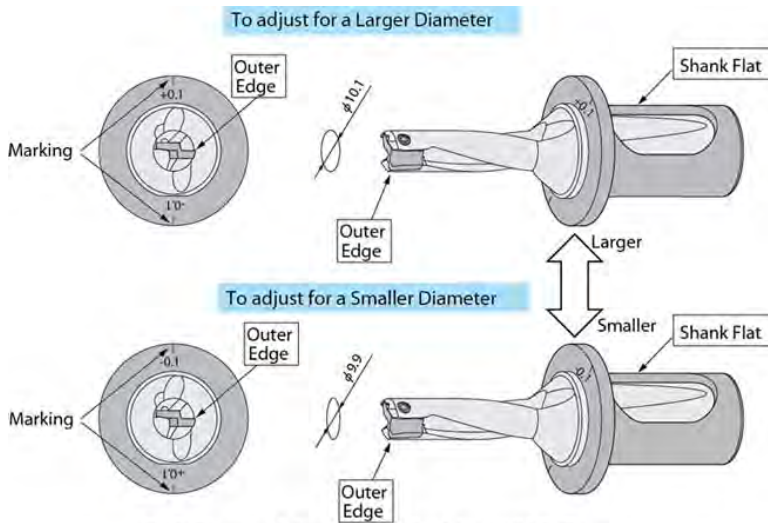

Fig.1 Diameter Adjustment Method (e.g.)φ10 Drill
- ① Set the outer edge horizontally: 90° to the marking line on the sleeve (Fig.1)
- ② To adjust to a larger diameter, align the +0.1 mark on the sleeve with the flat on the drill shank. To adjust to a smaller diameter, align the -0.1 mark on the sleeve with the flat on the drill shank.
- ③ Tighten the bottom screw firmly which is directly touching the drill. Slightly tighten the upper screw which is directly touching the sleeve.